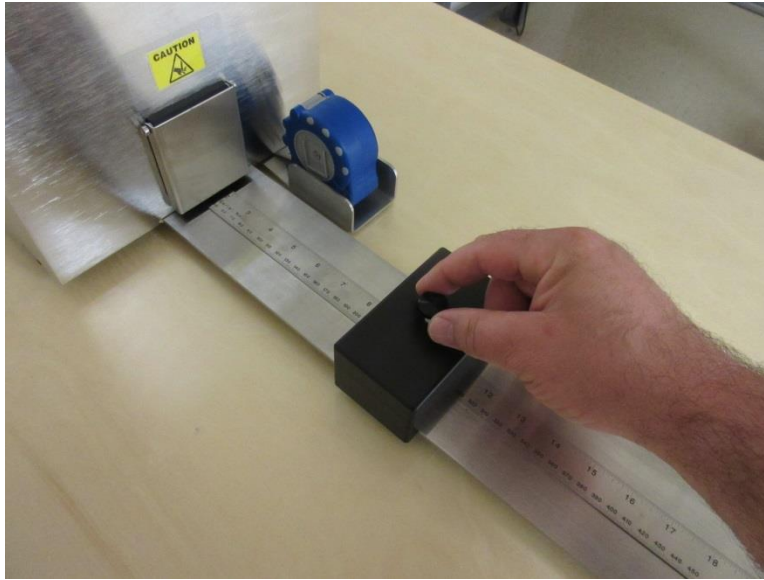

Figure 3.2.1
- Position the slide block to the desired cut length using the scale. Secure the slide block in position by tightening the thumb-screw clockwise; take care not to over tighten. *Figure 3.2.1*